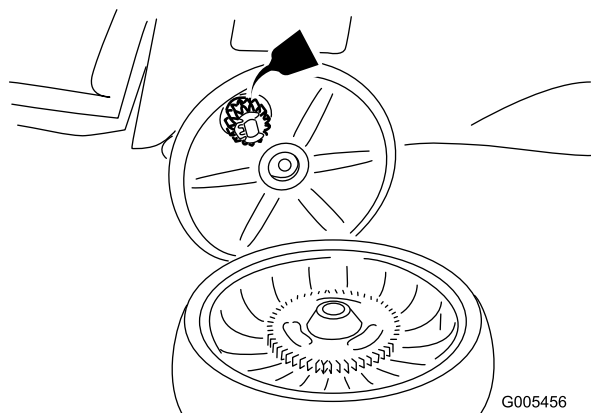

Figure 22
2. Apply a lubricating oil to the gear as shown in Figure 22.